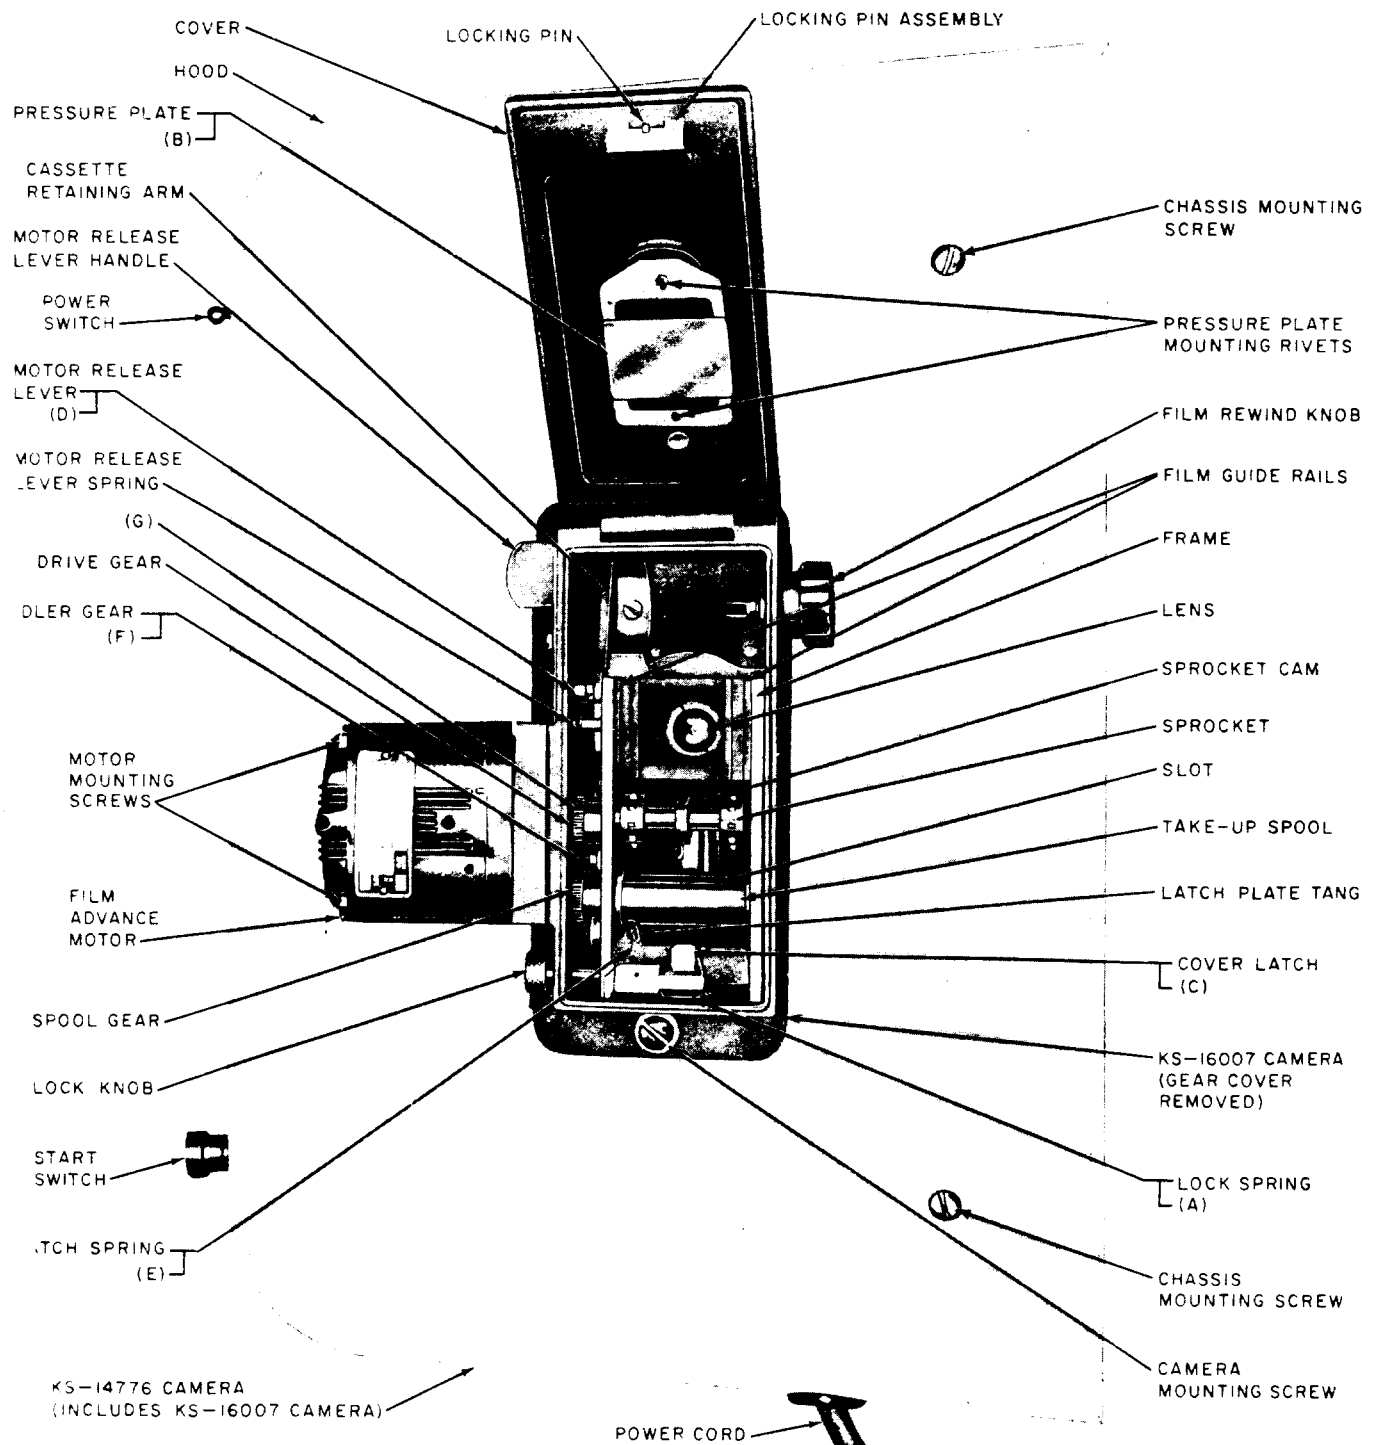

Fig. 6—KS-14776 Camera—View With KS-16007 Camera Open
2.04 Position of Pressure Plate: Fig. 6, (B)—When released by a clockwise rotation of the lock knob, the cover shall be held partially open by the pressure plate.
2.05 Cover Latch Clearance: Fig. 6, (C)